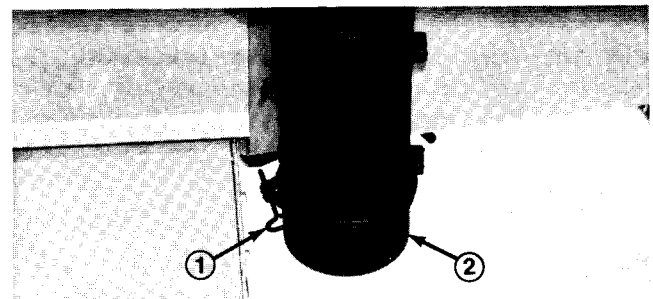

Figure 5
1. Loosen the thumb screw until the dust cup and baffle can be removed (Fig. 5). Separate the dust cup and baffle (Fig. 5).